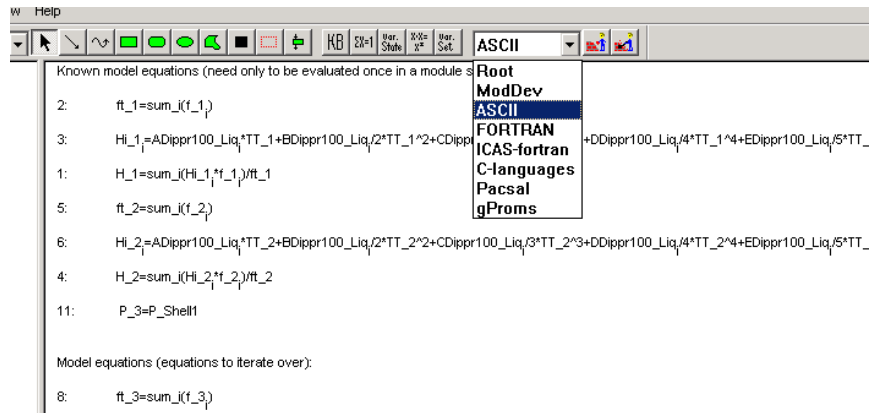

Figure 10: Selecting of the model implementation type.
Step 1: Select the model type from the list on the tool-bar (fig. 10).